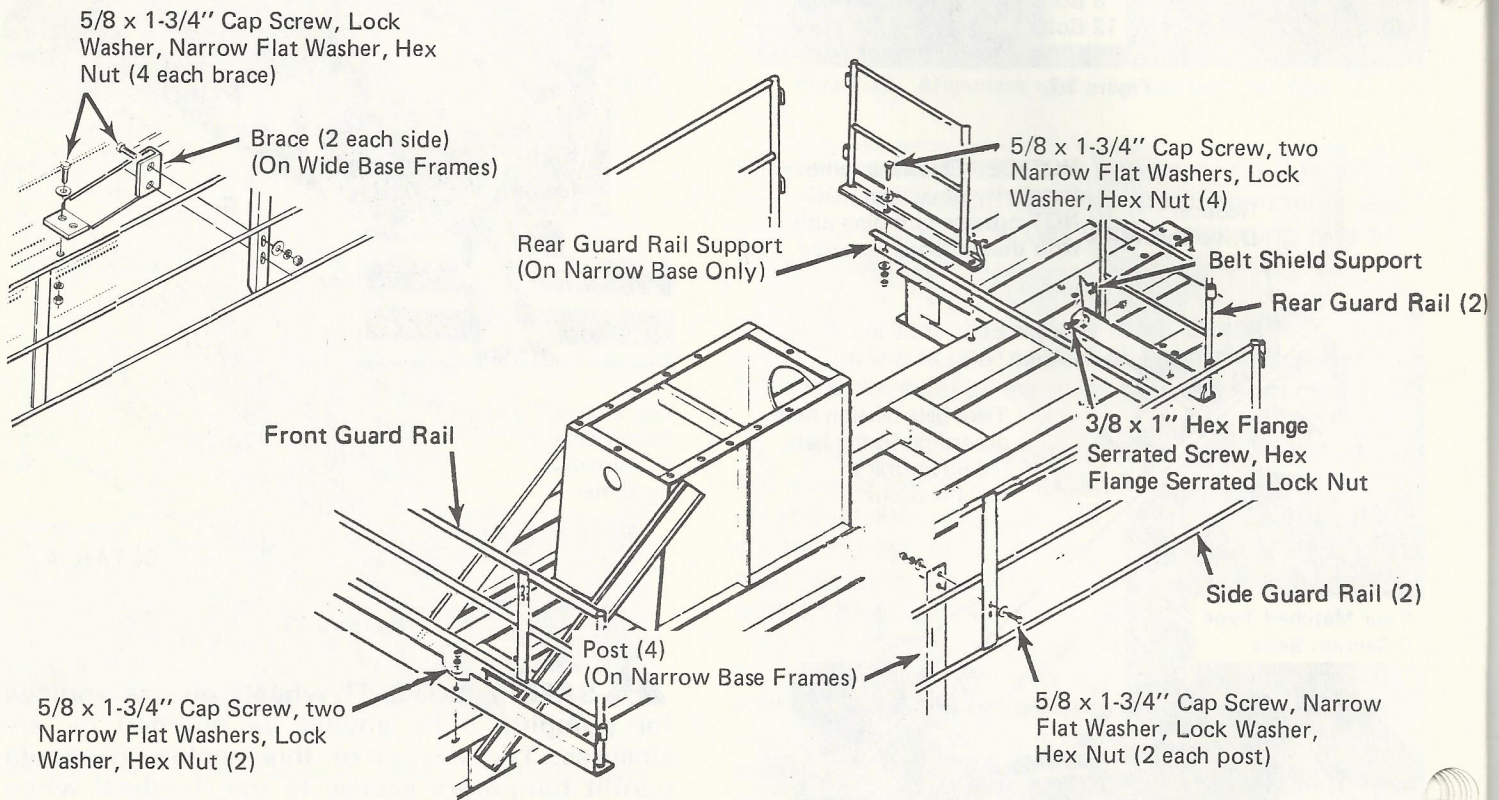

Figure 21
23. Install front guard rail on mainframe near centerline of Samson post with two bolts and two rear guard rails at rear end of mainframe with two bolts each as shown in figure 21. Attach lower belt shield support to left guard rail with one bolt shown.
34. Place rear guard rail support under belt shield and install two rear guard rails as shown in figure 21. Attach lower belt shield support to left guard rail with one bolt shown. Install front guard rail near centerline of Samson post with two bolts.
35. Install side guard rail on each side by inserting pins on each end into sockets of end guard rails as shown in figure 21. Install two posts on each side of unit to support side guard rails. Attach with two bolts each.